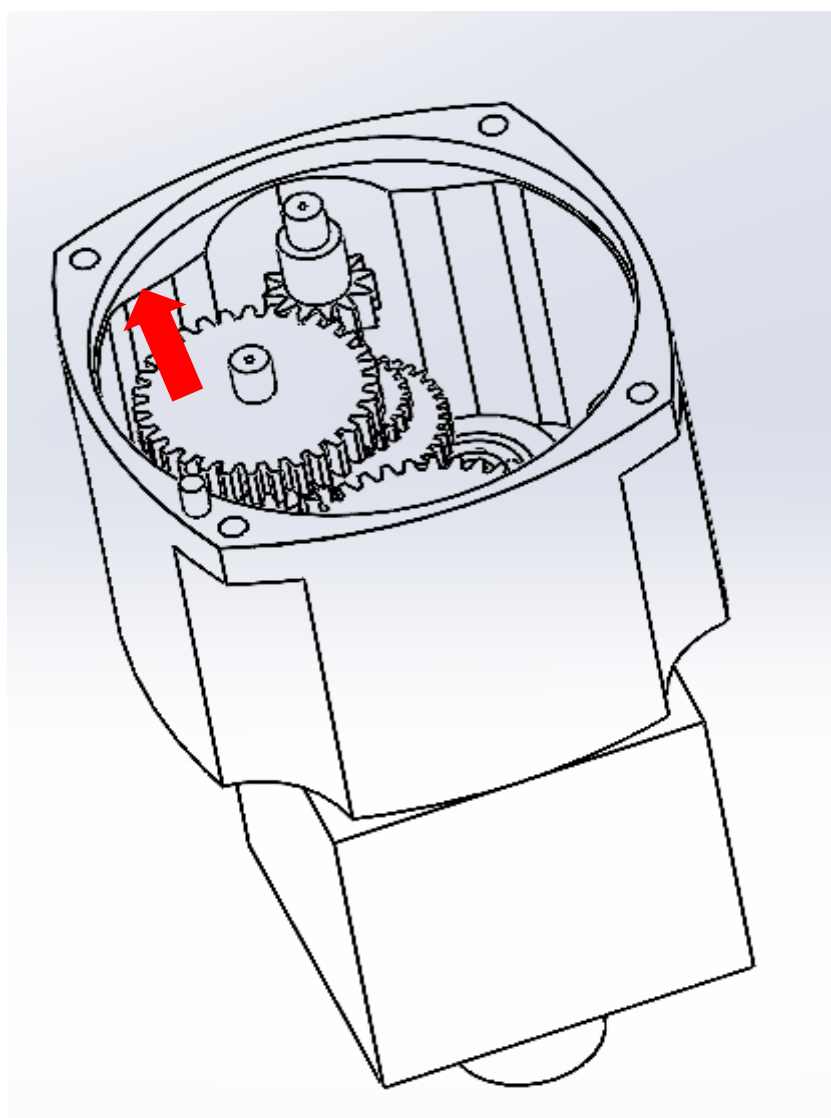

Figure 2.21
- 2.7.4 Remove the countershaft and washer in the direction of the arrow (see figure 2.21);